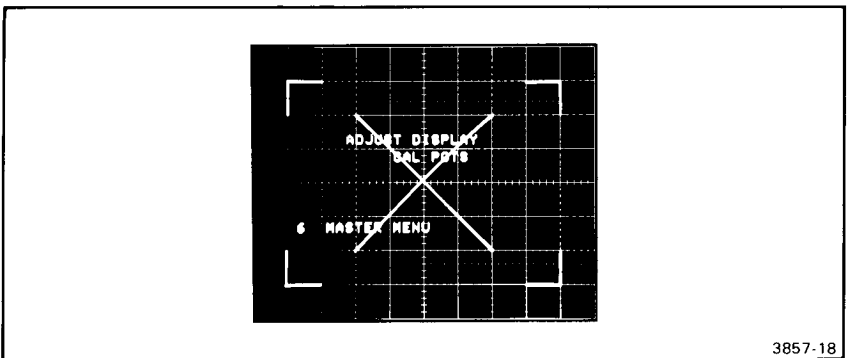

Figure 2-10. Adjust VECT LIN.
Step 5 Adjust the VECT LIN (Vector Linearity) control to close the crossing pattern in the DISPLAY CAL test pattern as shown in Figure 2-10. This will optimize the vector display by compensating for the delay line length of the host mainframe.